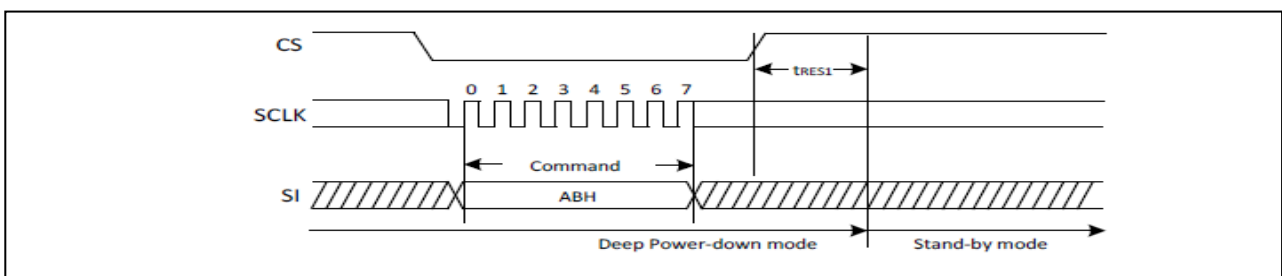

Figure21. Deep Power-Down Sequence Diagram
The Release from Power-Down and Read/Device ID command is a multi-purpose command. It can be used to release the device from the Power-Down state or obtain the devices electronic identification (ID) number. To release the device from the Power-Down state, the command is issued by driving the CS# pin low, shifting the instruction code “ABH” and driving CS# high as shown in Figure21. Release from Power-Down will take the time duration of t_{RES1} (See AC Characteristics) before the device will resume normal operation and other command are accepted. The CS# pin must remain high during the t_{RES1} time duration.